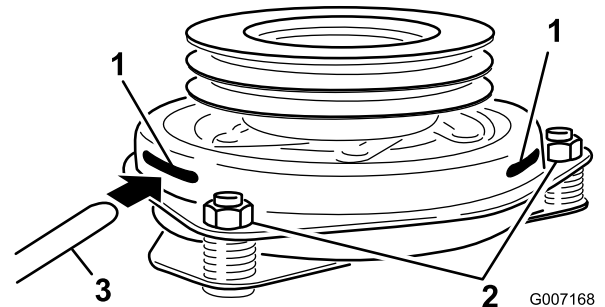

Figure 63
- Insert a 0.015–0.021 inch (0.381–0.533 mm) feeler gauge through one inspection slot in the side of the assembly. Make sure it is between the armature and the rotor friction surfaces (Figure 63).
- Tighten the lock nuts until there is slight binding on the feeler gauge but it can be moved easily within the air gap (Figure 63).